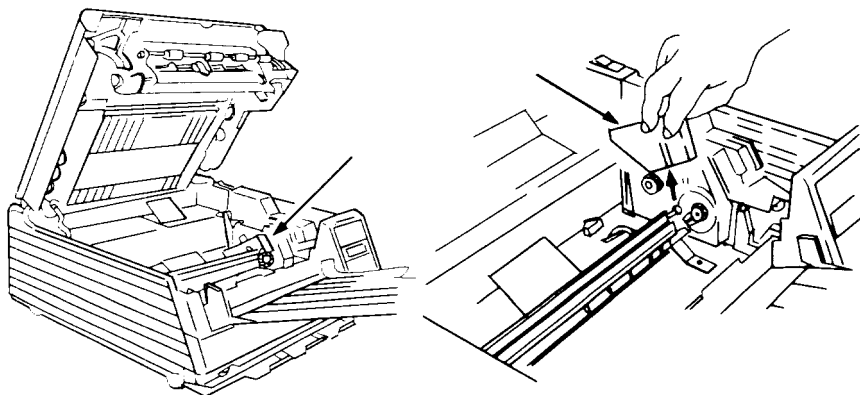

Figure 2-3 Removing LED array packing
- b. Remove the packing which protects the LED array, as shown in Figure 2-3.